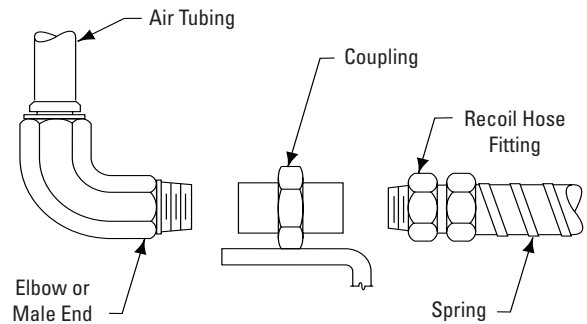
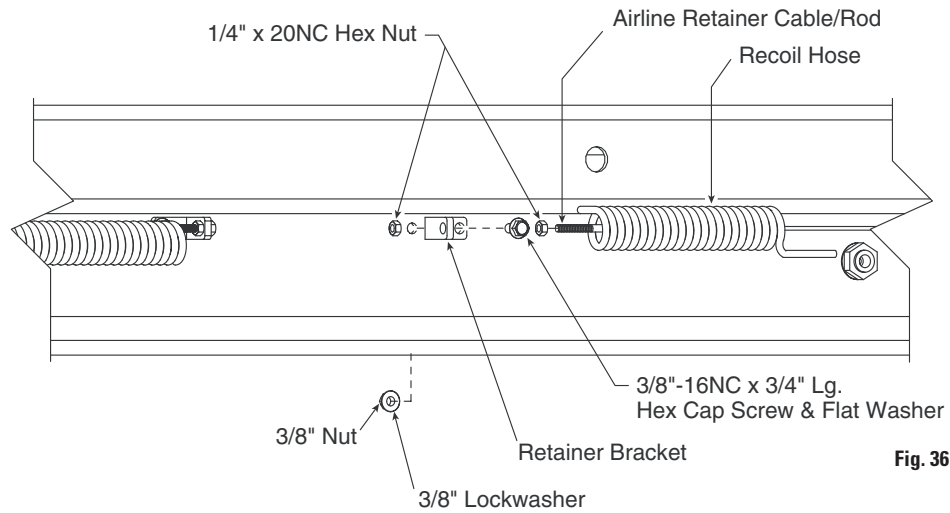
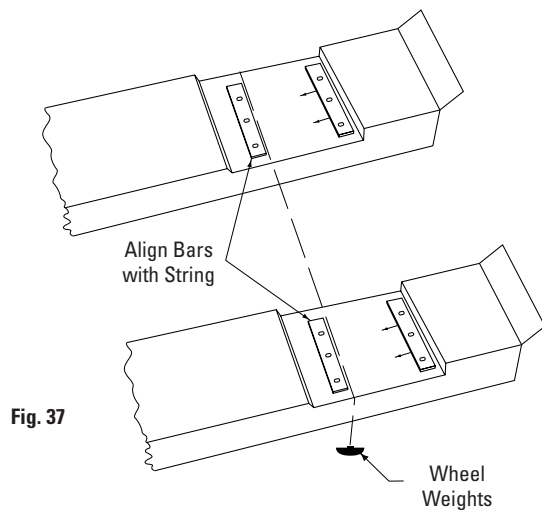

Fig. 34
Fig. 36
Fig. 37
- A. Attach retainer brackets for the rear recoil hose with 3/8"-16NC x 3/4" Lg. hex cap screw, flat washer, lock washer and nut, Fig. 36.
- B. Insert retainer cable through coils of recoil hose, Fig. 37. Run a 1/4"-20NC hex nut down onto each end of retainer cable. Insert each end of cable into retainer brackets. Secure each cable end with another 1/4"-20NC hex nut. Tighten jam nuts, Fig. 36.
- A. Insert retainer cable through coils of recoil hose, Fig. 36. Connect one end of recoil hose to coupling welded on rolling jack, Fig. 34 and 35.
- C. Connect elbow end of rolling jack tubing assembly to air pump, and male end to the coupling, Fig. 34 and 35.
- B. Place a weighted string, Fig. 37, across the runways so that the string is touching along the full length of both rear guide bars. If the string is not touching, tap the ends of the guide bars lightly until the guide bars make full contact against the string. Tighten the rear guide bar mounting bolts securely and remove the string.